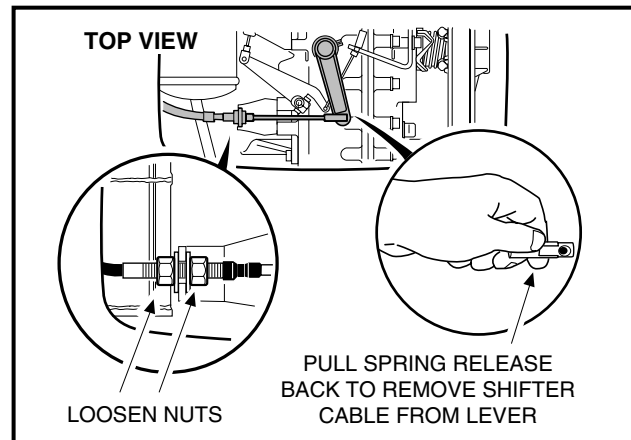

FIGURE 10-16
- 2.7. Use an 17 mm wrench to loosen the nuts securing the shifter cable to the shifter cable mounting bracket. Then disconnect the shifter cable rod end from the shifter arm on the unitized transaxle and remove the cable from the cable mounting bracket (**Figure 10-16**).